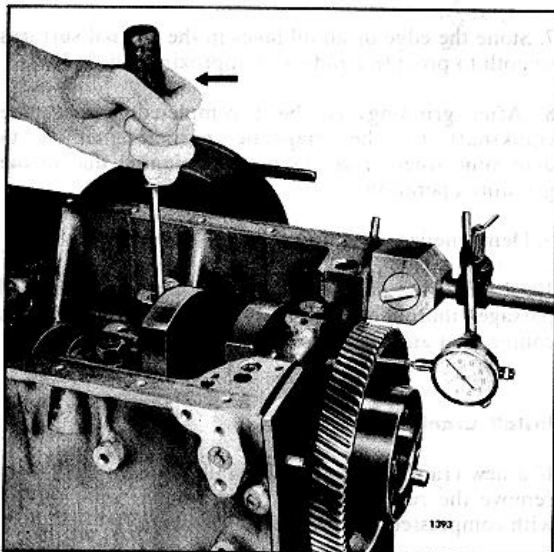

Fig. 10. Checking Crankshaft End Play
7. Check the crankshaft end play by moving the crankshaft toward the gage (Fig. 10) with a pry bar. Keep a constant pressure on the pry bar and set the dial indicator to zero. Then remove and insert the pry bar on